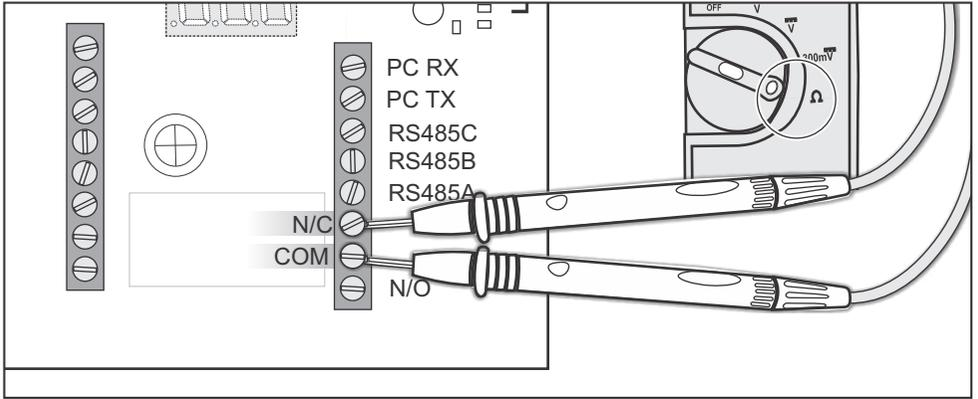

Figure 3 Multimeter connected to N/C & COM
1. Connect the multimeter to (COM and N/C) as indicated in figure 3.